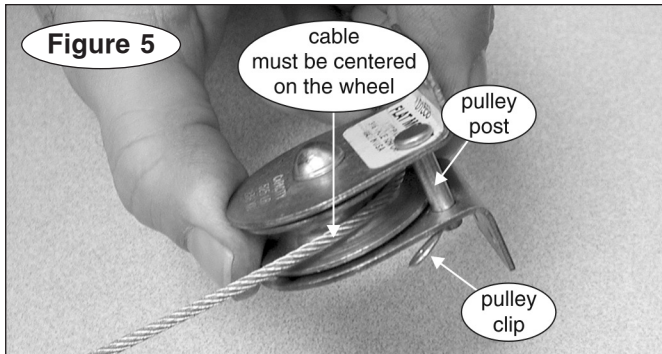

Figure 5
- The pulley (Figure 1) must be positioned directly in line with the L-shaped brake pedal clamp so that the cable aligns directly to the center of the pulley wheel (Figure 5).
However it is mounted, the cable must be directly in line with the center of the pulley, as shown in Figure 5.
1. Route the bare cable over the pulley and position the pulley at the mounting location you have chosen. Make certain that both clips and posts (Figure 5) are present.